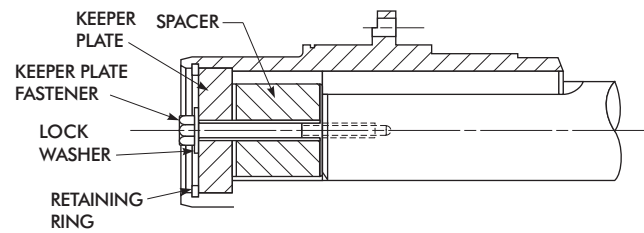

Figure 4 — TYPE HF32
7. Remove threaded rod and drawing on plate. Insert keeper plate fastener with lock washer through keeper plate and spacer, Figures 4 and 5. Carefully thread into tapped hole in driven shaft and tighten keeper plate fastener to torque specified in Table 5, Page 5, Column 7.